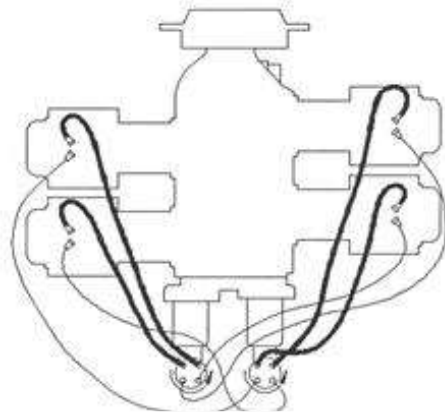

Figure 5
- A. Remove the ignition harness (Figure 5) from the engine harness.
- A. Examine the ignition harness (Figure 5) for broken, frayed, chafed, abraded, degraded, overheated or damaged wiring and connections. Replace the ignition harness if a wire is broken, frayed, chafed, abraded, degraded, overheated, or damaged. Wiring degradation includes:
- (1) Degraded wire repairs or slices
- (2) Heat damaged or burnt wire
- (3) Vibration damage or chafing
- (4) Cracked insulation
- (5) Arcing
- (6) Insulation delamination
- C. Figure 5 shows an example of ignition harness routing. Your harness routing configuration could be different due to engine installation arrangement.
- A. Attach the left ignition harness to the left EIS or the left magneto (Figure 5).
- (4) Torque the spark plug lead nut per instructions in the latest revision of Service Instruction No. SI-1042.
- D. Position the ignition harness (Figure 5) to prevent chafing by baffles or engine parts. There must not be any kinks or sharp bends in the ignition lead wire routing.